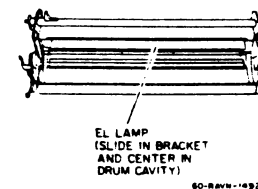

Figure 3. Replacing and Centering the EL Lamp
3. SLIDE THE LAMP INTO BRACKET (CENTER LAMP IN DRUM CAVITY) (FIGURE 3).